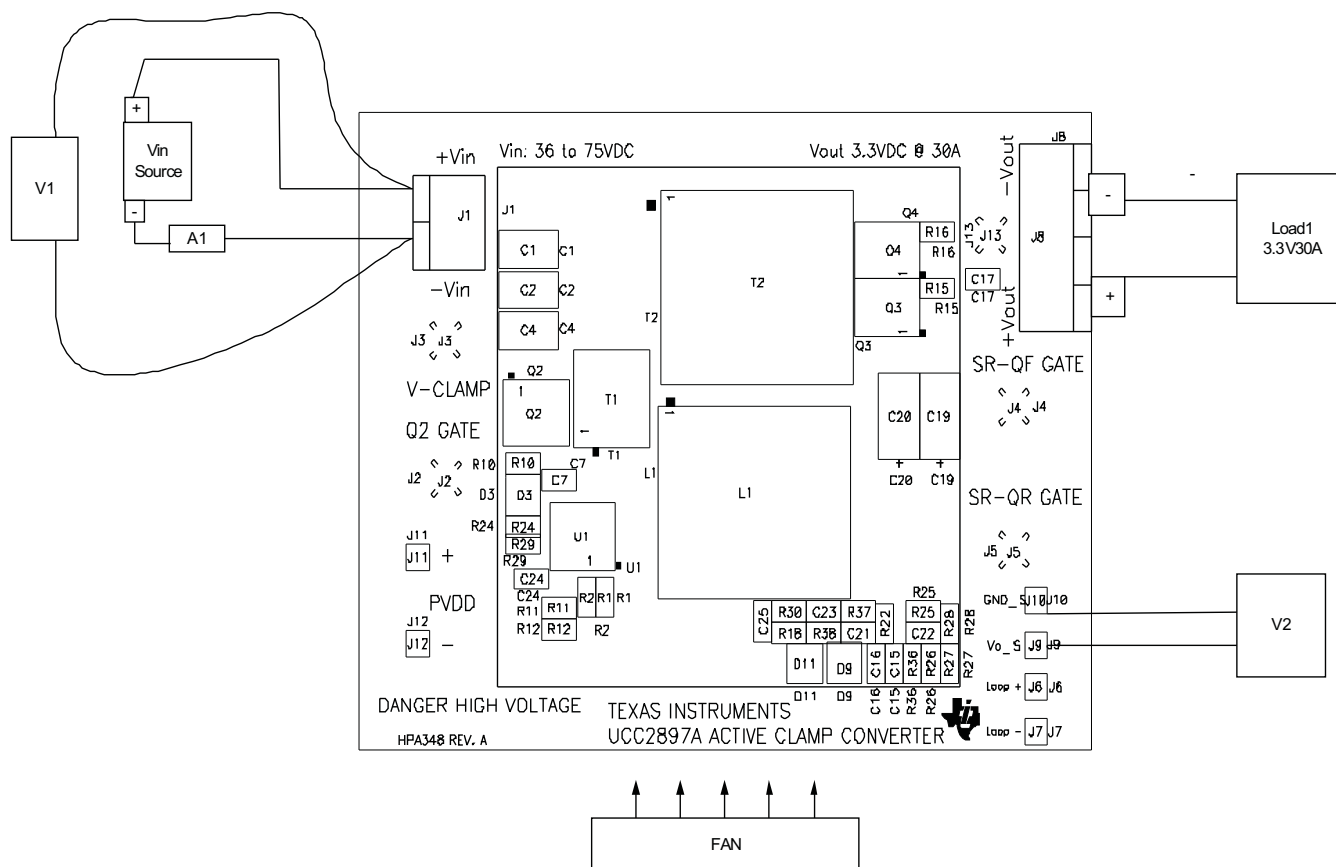

Figure 2. Recommended Test Set Up
Voltage Source, VIN: The input voltage shall be a variable DC source capable of supplying between 0 V_{DC} and 75 V_{DC} at no less than 3.5 A_{DC}, and connected to J1 and A1 as shown in Figure 2. For fault protection to the unit, good common practice is to limit the source current to no more than 3.5 A_{DC} for a 36-V input. A DC ammeter, A1 should also be inserted between VIN and J1 as shown in Figure 2. For highest accuracy, such as gathering efficiency data, V_{IN} should be measured directly across the input capacitor.
2. Prior to connecting the DC input source, V_{IN} , it is advisable to limit the source current from V_{IN} to 3.5 A maximum. Make sure V_{IN} is initially set to 0 V and connected to J1 as shown in Figure 2.
3. Connect the ammeter A1 (0 A to 10 A range) between V_{IN} and J1 as shown in Figure 2.
4. Connect voltmeter (can optionally use voltmeter from V_{IN} source if available), V1 across V_{IN} as shown in Figure 2.
5. Connect LOAD1 to J8 as shown in Figure 2. Set LOAD1 to constant current mode to sink 0 A_{DC} before V_{IN} is applied.
6. Connect voltmeter, V2 across J9 and J10 as shown in Figure 2.